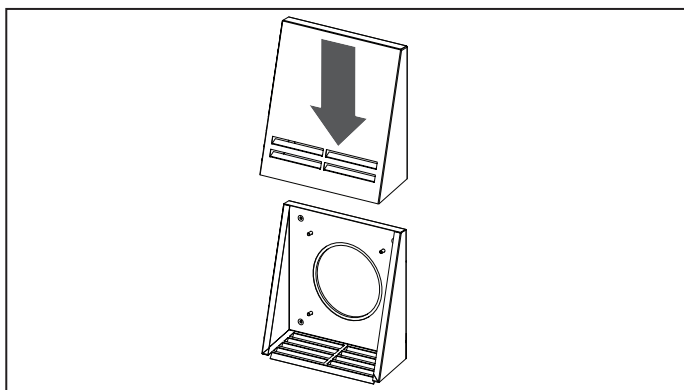
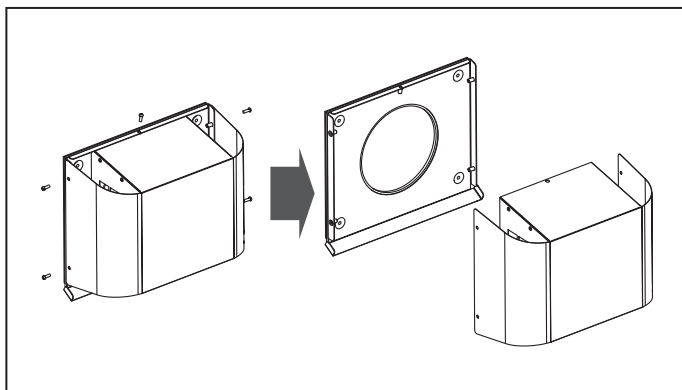

Fig. 25.
Fig. 26
- remove the upper part of the outer ventilation hood: Fig. 25 – for the model VENTO A50 / A50-1; Fig. 26 – for the model VENTO A50 S / A50-1 S.